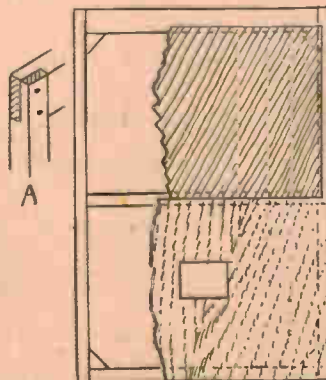

Fig. 1 The frame for the screen
A frame for the screen should be made first. This is drawn in Fig. 1, and should be suitable as regards its measurements for the window, naturally. It is made from deal, $\frac{1}{2}$ in. by 1 $\frac{1}{2}$ ins. stuff, except the top piece which needs to be a bit wider, say, 2 ins. A simple halved joint at the corners, as at (A) will serve, glued and nailed together. The middle bar can be just nailed across, as a halved joint here might tend to weaken the frame. It should be a close fit in the window frame, and can be retained in position